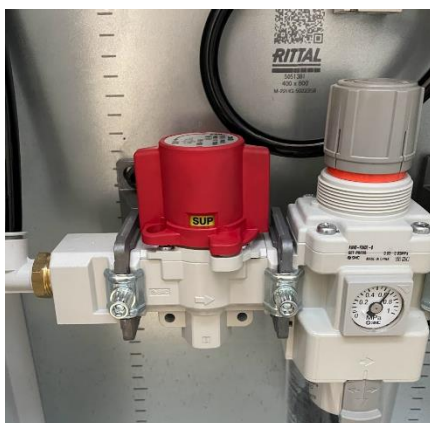

Figure 33 (Main switch for compressed air not switched off)
4. Check the main switch for compressed air in the machine (fig 33). If the switch is not off, refer to point 5.